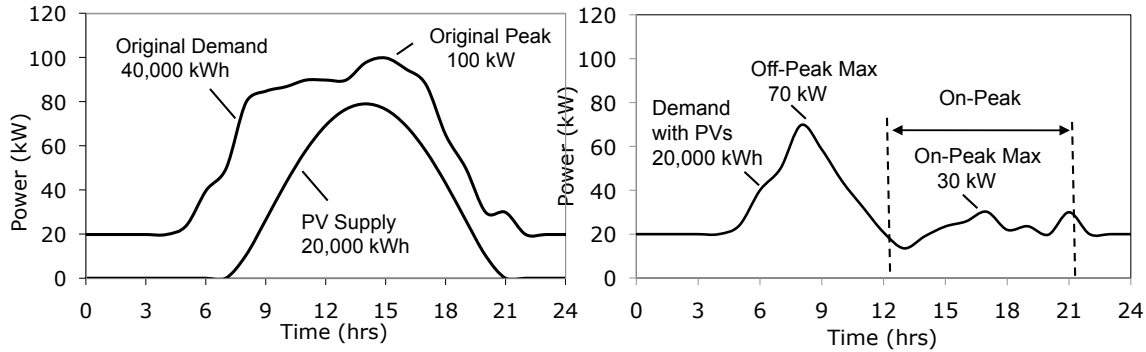

Figure P 6.10
6.10 A small office building that uses 40,000 kWh/month during the summer has a peak demand of 100 kW. An 80-kW photovoltaic system is being proposed that will provide 20,000 kWh/mo. The before and after demand curves are shown in Figure P 6.10.